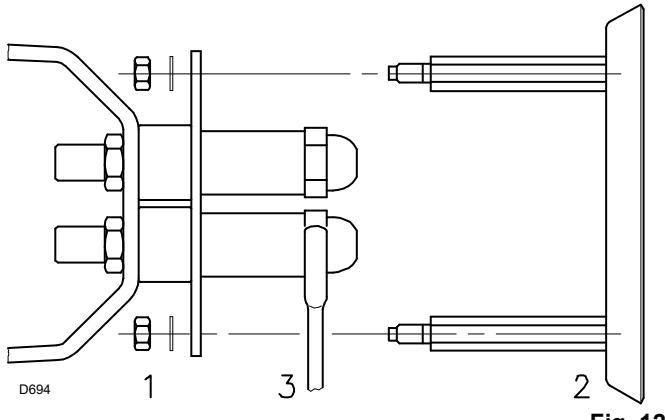

Fig. 12
- Remove the nuts 1)(Fig. 12) and the disk 2).
- Use spanner 3) (Fig. 12) to change the nozzles.